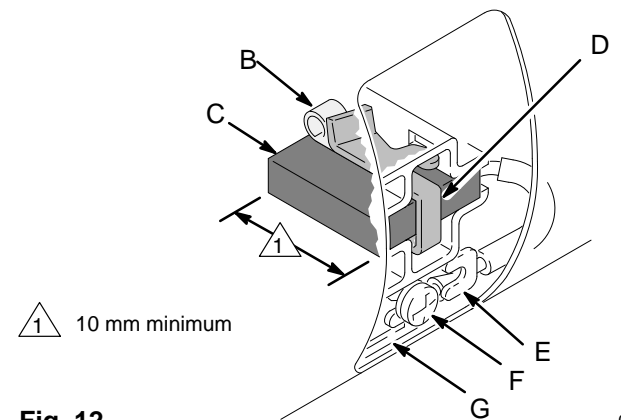
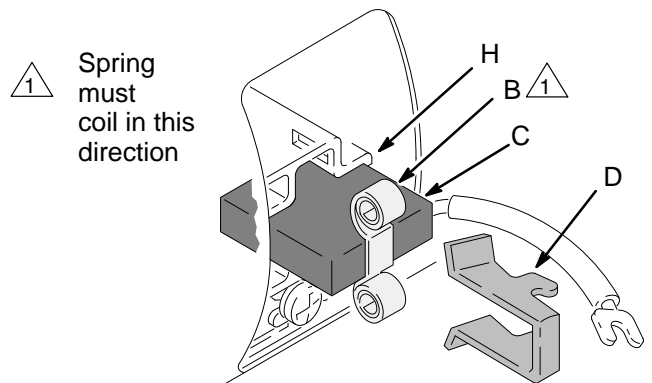

Fig. 12
Fig. 13
NOTE: Replace the brushes when they have worn to less than 10 mm. See Fig. 12. Always replace both brushes at the same time. A Brush Repair Kit, 220–853, and spring clip, 110–816, are available.
3. Loosen the terminal screw (F). Pull the brush lead (E) away, leaving the motor lead (G) in place. Remove the brush (C) and spring (B). See Fig. 12.
5. Install the new brush (C) so its lead is in the long slot (H) of the holder. See Fig. 13. Slide the terminal (E) under the terminal screw washer. Make sure the motor lead (G) is still connected the at the screw. Tighten the screw (F). See Fig. 12.
6. Place the spring (B) on the brush as shown in Fig. 13. The spring must coil as shown.
7. Push in and hook the spring clip (D). See Fig. 13.
9. Test the brushes. Remove the connecting rod pin (50). See 15, page 14. With the sprayer off, turn the pressure control knob fully counterclockwise to minimum pressure. Plug in the sprayer. Turn the sprayer on. Slowly increase the pressure until the motor is at full speed. Inspect the brush and commutator contact area for excessive arcing. Arcs should not “trail” or circle around the commutator surface.